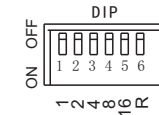

Fig. 3
1. DIP switch setting: DIP1-3 as program switch, please see setting as follow(1=ON, 0=OFF), DIP 4-5 is blank, DIP 6 is for remote controller (Fig. 3)